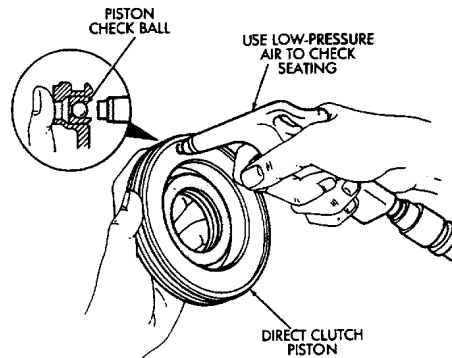

Fig. 10 Testing Piston Check Ball Seating
(15) Check clutch piston check ball (Fig. 10). Shake piston to see if ball moves freely. Then check ball seating by applying low pressure compressed air to ball inlet as shown. Air should not leak past check ball.